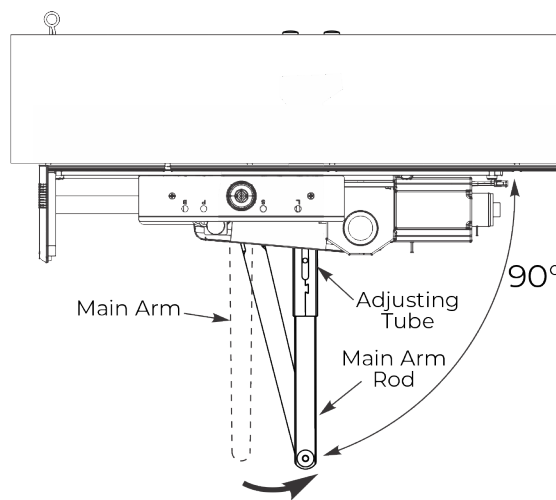

Figure 23 View from ceiling looking downward
4. With door closed, rotate main arm away from hinge until adjusting tube is perpendicular (90 degrees) with door. (Figure 23)